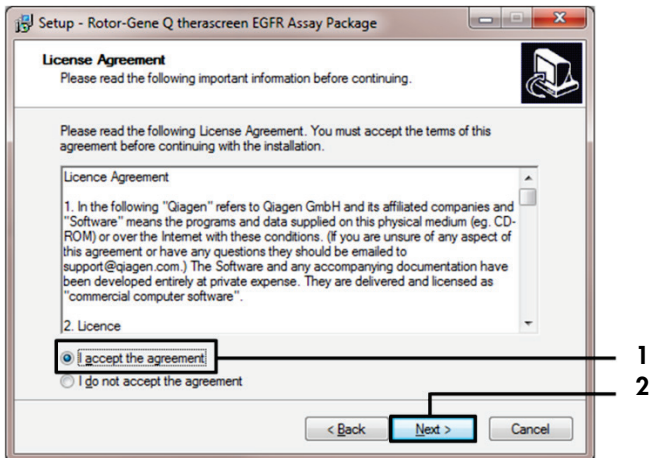

Figure 42. The "License Agreement" dialog box. 1 = "I accept the agreement"; 2 = "Next."
5. Read the License Agreement in the dialog box and select **I accept the agreement**. Click **Next** to continue (Figure 42).